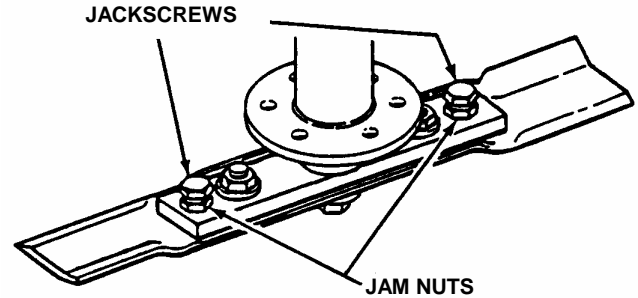

FIGURE 4.6
- b. Adjust jack screws "IN" or "OUT" until blade tip measurements are within 1/16" of each other and blade tips are 3/8" away from deck lip. See Figure 4.6.